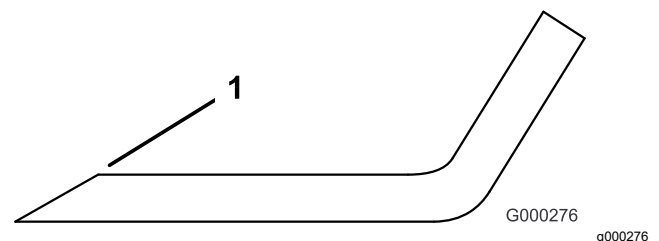

Figure 91
3. Examine the cutting edges of all of the blades and sharpen the cutting edges if they are dull or nicked (Figure 91).
Note: Sharpen only the top of the cutting edge and maintain the original cutting angle to ensure sharpness (Figure 91). The blade remains balanced if the same amount of metal is removed from both cutting edges.